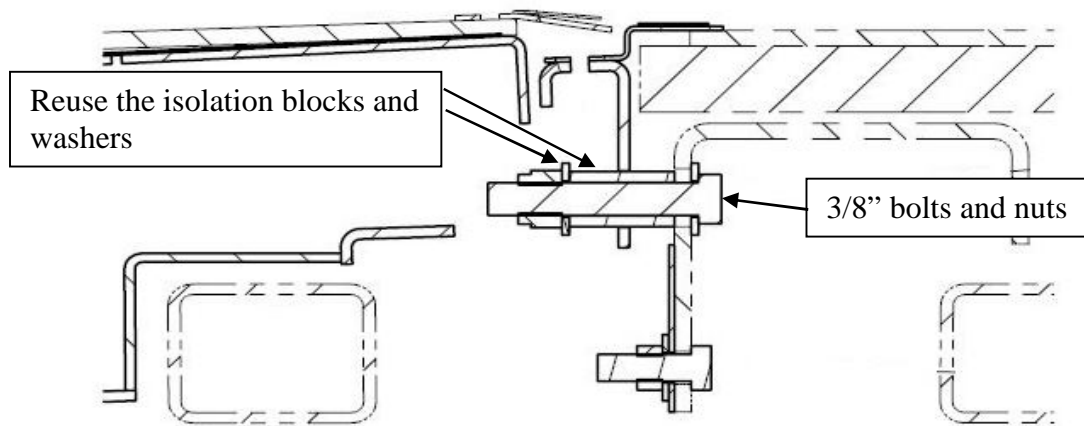

Figure 3: 3/8" bolts, nuts, isolation blocks, and washers. Street side shown
8. On the street side, one at a time, remove and discard the 3/8" bolts and nuts (three per bus) that mount the wheelchair to the bus structure. Reuse the blocks and washers. Use a new bolt NF # 10B06036 and a new nut NF # 10N06000 and torque to 58 FT-LB. **Do not use Loctite in this location.** Figure 3.